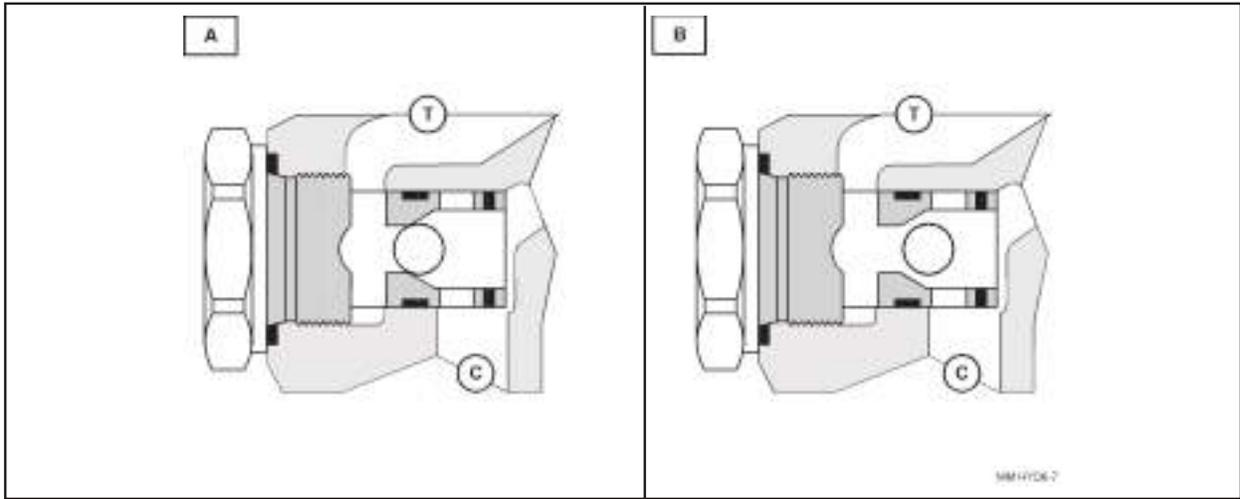

FIGURE 31. TILT CIRCUIT OPERATION ANTI-CAVITATION VALVE OPERATION
- An anti-cavitation valve is located in the tilt section piston end valve port to prevent cavitation of the tilt cylinder (refer to figure 31).